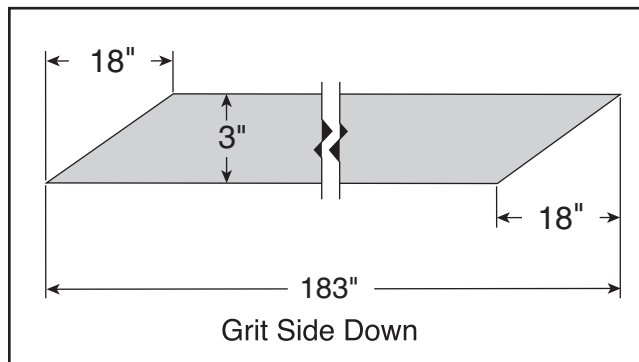

Figure 29. Sandpaper pattern (G1066Z).
3. If needed, remove tape from first sanding drum and unwind old sandpaper. Use it as a pattern (or use pattern in **Figure 29**) to cut a piece of 3" wide sandpaper of desired grit. It is necessary to cut away a triangular portion of sandpaper at each end.